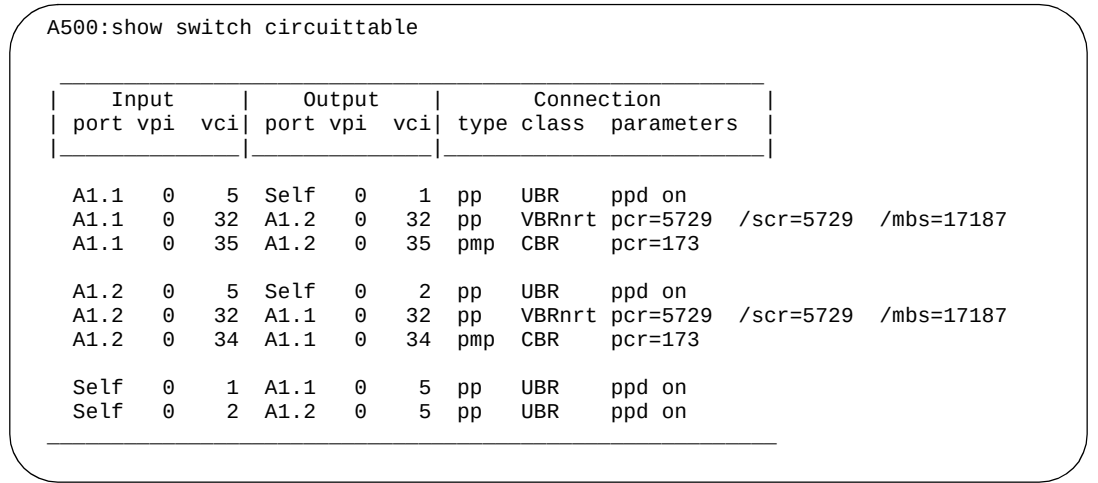

Figure 1-57. A500: show switch circuittable screen
1. Enter **show switch circuittable** on the A500 console. Figure 1-57 shows the screen output.